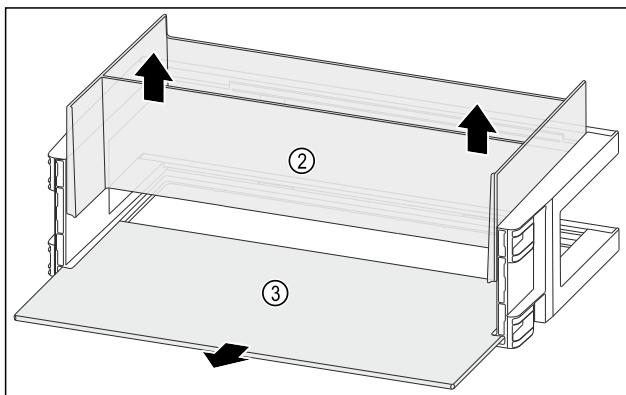

Fig. 132
- Remove the organiser Fig. 132 (2) upwards.
- Remove the shelf Fig. 132 (3).